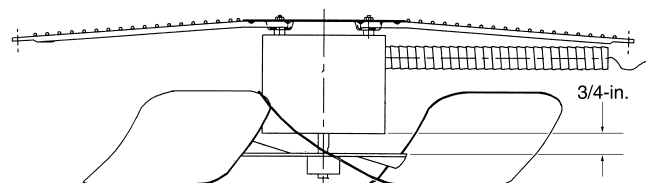

Fig. 30 — Condenser-Fan Adjustment
Condenser-Fan Adjustment (Fig. 30)
- Adjust fan height as shown in Fig. 30.